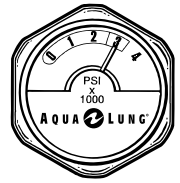

Fig. 12 - "Full" Indication
5. Closely examine the pressure gauge dial face to determine that the M.A.S. cylinder is full. (See Fig. 12.) If the gauge does not register at least 2,500 psi, repeat the filling procedure using a supply cylinder that is filled to 3,000 psi.